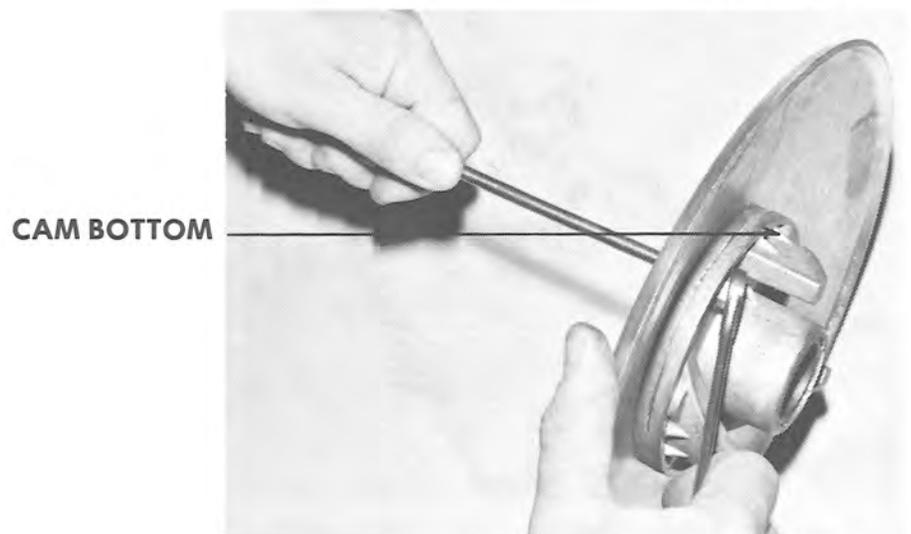

**FIG. 4-16**
4. Remove key and main spring. (See Figure 4-16.)